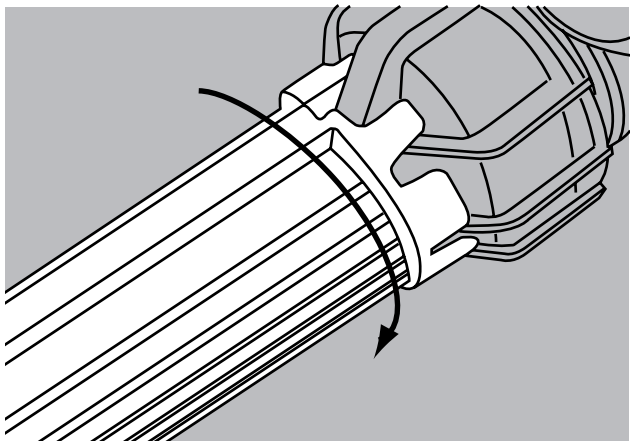

FIGURE 21
21. Engage the Tightening Assistant onto the Locking Cap and fully tighten in a clockwise direction. (Figure 21)